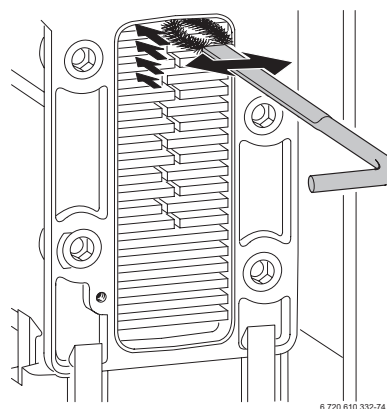

Fig. 50
- Clean the heat exchanger from top to bottom using the brush. Refer to fig. 50.